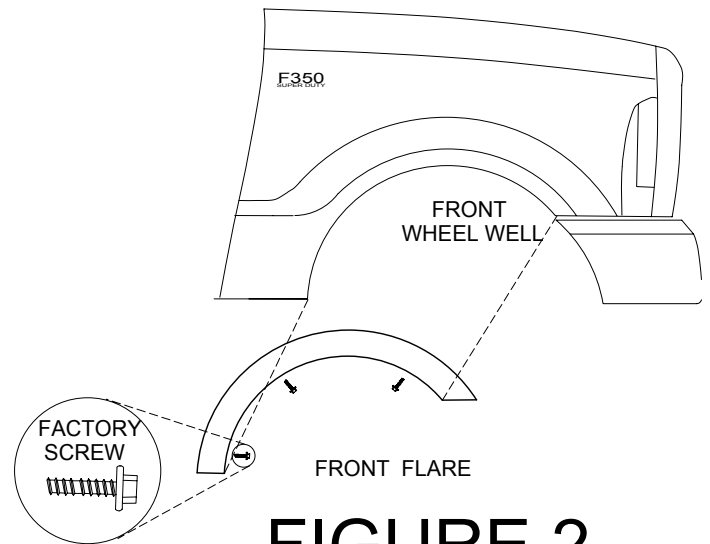
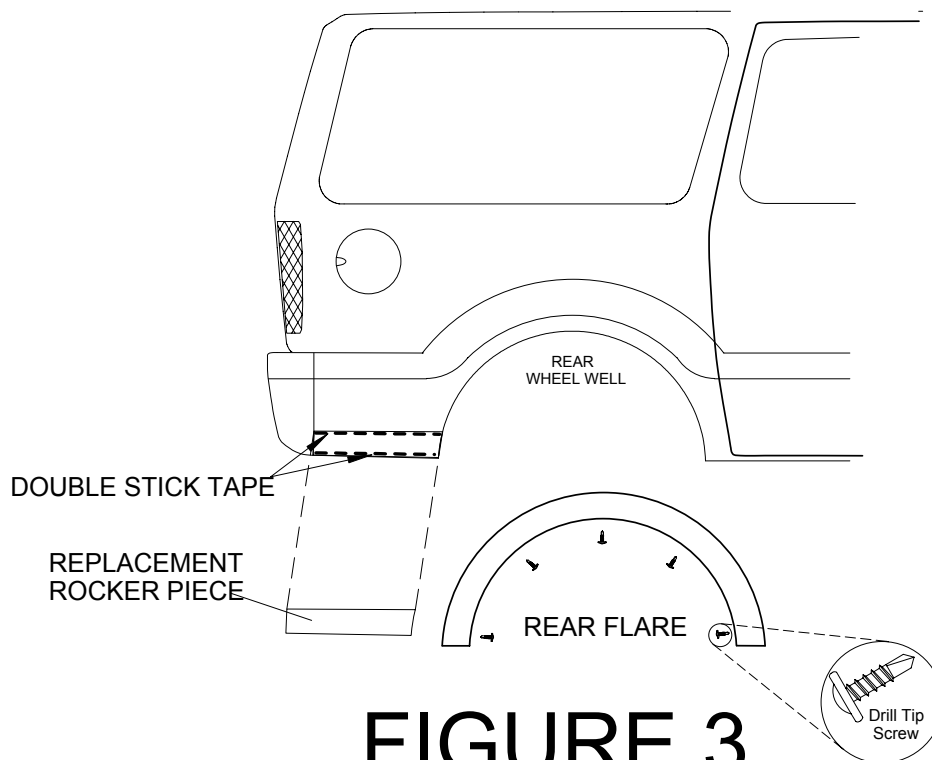

FIGURE 2
FIGURE 3
- (A) Pre-drill all flares with a 3/16" drill bit using the indents formed into the flare as a guide.
- (B) Remove the three factory screws from front wheel well using the 7/32" socket.
- (C) Holding front flare in place on fender, secure with factory screws through holes drilled in flare. **See FIGURE 2.**
- (A) Removing factory rocker panel pieces
- (B) FOR PROPER INSTALLATION OF TAPE, the vehicle, the parts to be installed, and the tape should be between 60° and 110°F for proper adhesion.
- (C) Adhere a strip of double stick tape along the top and bottom edges of the Replacement Rocker Panel Piece. Apply 30 lbs. of pressure per inch of tape for proper bond.
- (D) Pre-drill all flares with a 3/16" drill bit using the indents formed into the flare as a guide. Applying moderate pressure to the outside surface of the rear flare, fasten with five kit supplied drill tip screws using the holes in the flare as a guide. **See FIGURE 3.**